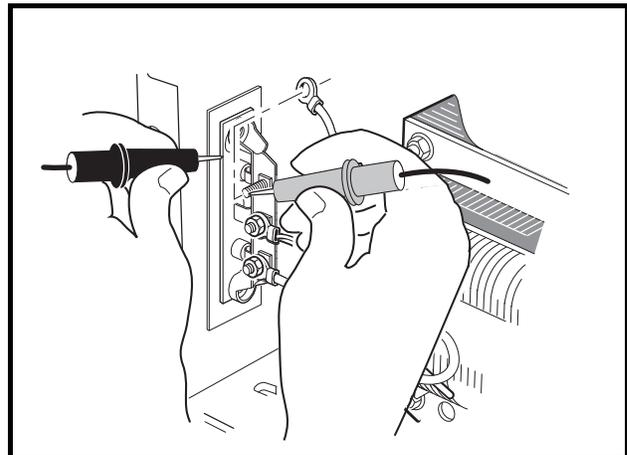

Figure 4-14 Diode Test – Probes Reversed
- Reverse test probes and check each diode again and note the reading (**Figure 4-14, Page 4-15**). A diode is designed to conduct current in one direction only. If a diode conducts current (shows continuity) in both directions, the entire heatsink with diodes must be replaced. If a diode does not conduct current (does not show continuity) in either direction, the entire heatsink must be replaced.